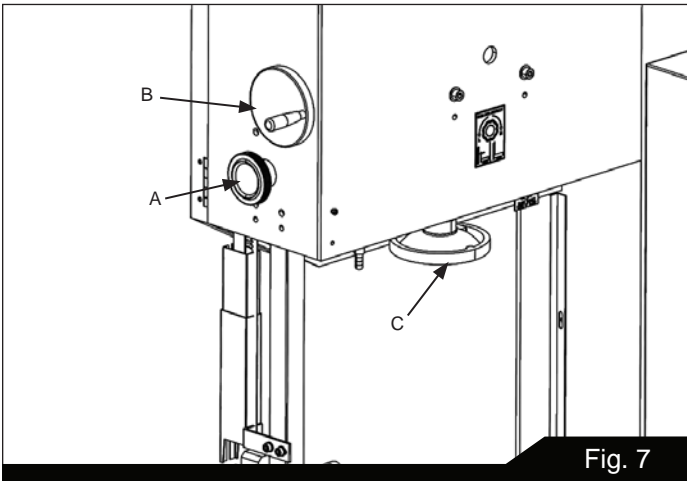

Fig. 7
1. Raise upper blade guide by loosening lock knob (A, Figure 7) and turning blade guide knob (B) clockwise until it stops.
3. To tighten blade, turn handwheel (C, Figure 7) clockwise. To loosen blade, turn knob counterclockwise.
1. Loosen lock knob (A, Figure 7) and turn blade guide knob (B, Figure 7) until blade guide assembly is half way between table and head, then tighten lock knob (A, Figure 7).